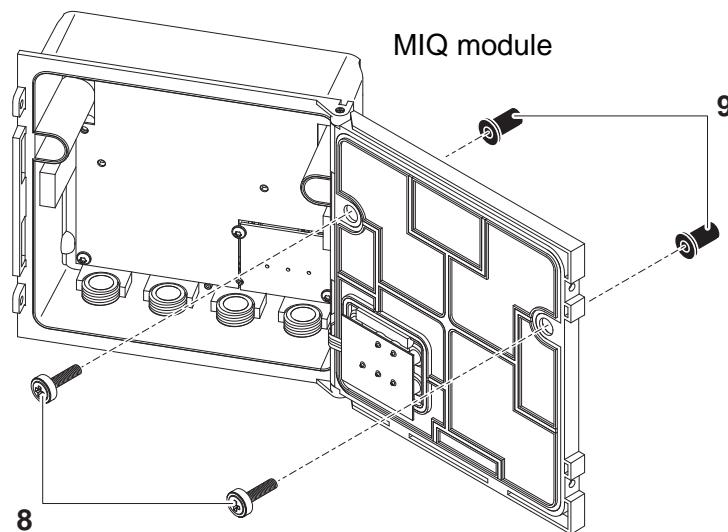

Fig. 3-9 Premounting the ISO blind nuts (variant 2)
- 6 Insert the cheese-head screws (pos. 8 in Fig. 3-9) with the plastic washers in the drilled mounting holes in the module lid and loosely screw in the ISO blind nuts (pos. 9).
| 7 | Attach the prepared MIQ module to the back of the DIQ/S 182-XT-4. At the same time, ensure that the two clips on the DIQ/S 182-XT-4 click into place in the lid of the MIQ module. Subsequently, tighten the two screws (pos. 8 in Fig. 3-9). |